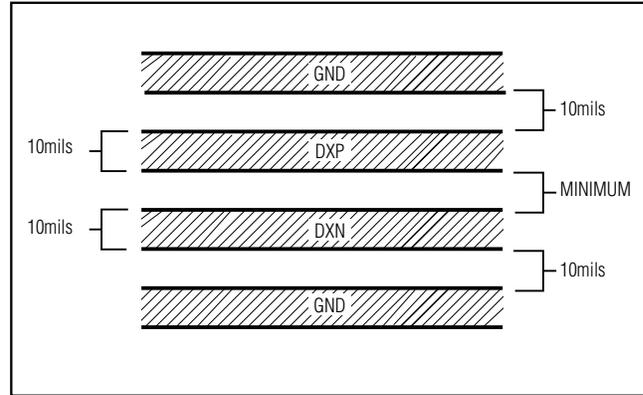

Figure 2. Recommended DXP-DXN PC Trace
- 3) Route the DXP and DXN traces in parallel and in close proximity to each other, away from any higher voltage traces, such as +12VDC. Leakage currents from PC board contamination must be dealt with carefully since a 20M Ω leakage path from DXP to ground causes about +1 $^{\circ}$ C error. If high-voltage traces are unavoidable, connect guard traces to GND on either side of the DXP-DXN traces (Figure 2).
- 6) Use wide traces. Narrow traces are more inductive and tend to pick up radiated noise. The 10mil widths and spacings that are recommended in Figure 2 are not absolutely necessary, as they offer only a minor